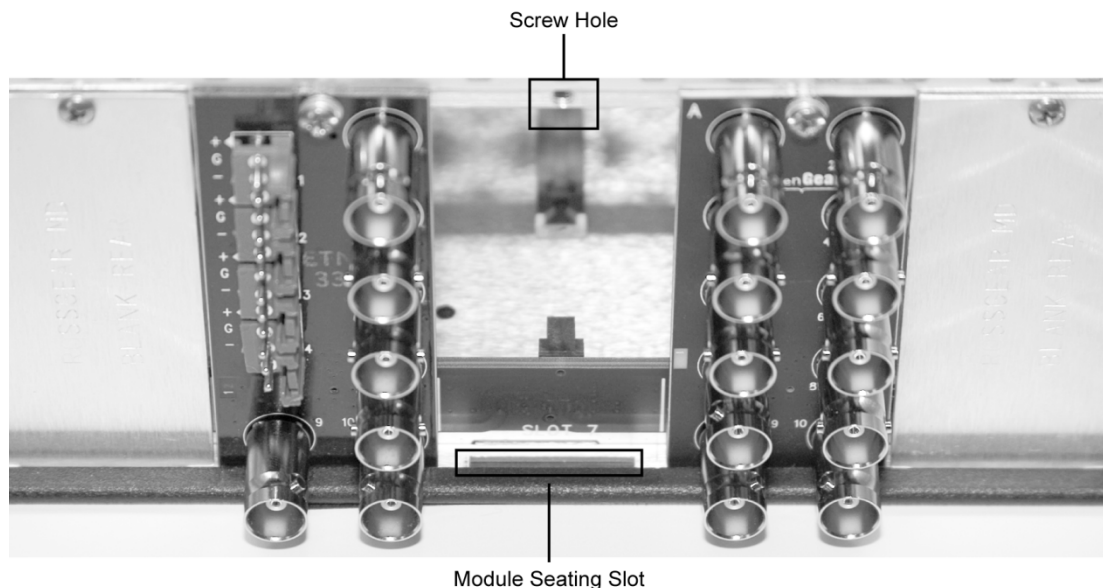

Figure 2.1 Rear Module Installation — DFR-8300 Series Frame (MDOG-6001-DA8-AESB not shown)
3. Install the bottom of the Rear Module in the **Module Seating Slot** at the base of the frame’s back plane. (**Figure 2.1**)